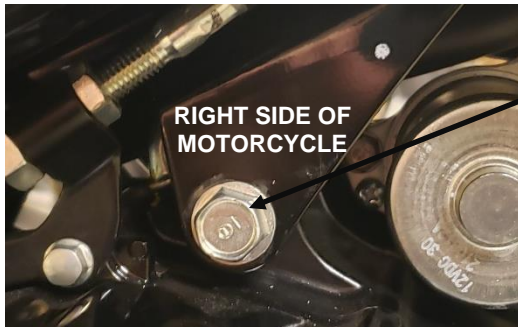

FIGURE 5A
7. Remove the upper engine mount nut and bolt from the motorcycle and discard. See **Figures 5A & 5B**.